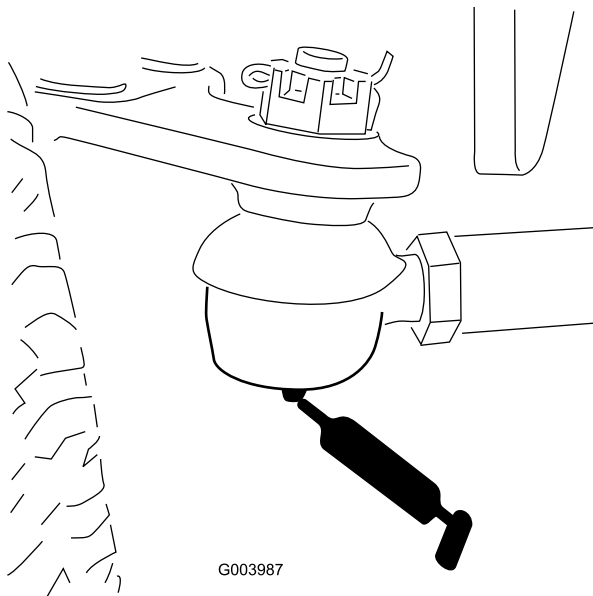

Figure 34
- Rear axle tie rod (2) (Figure 34)